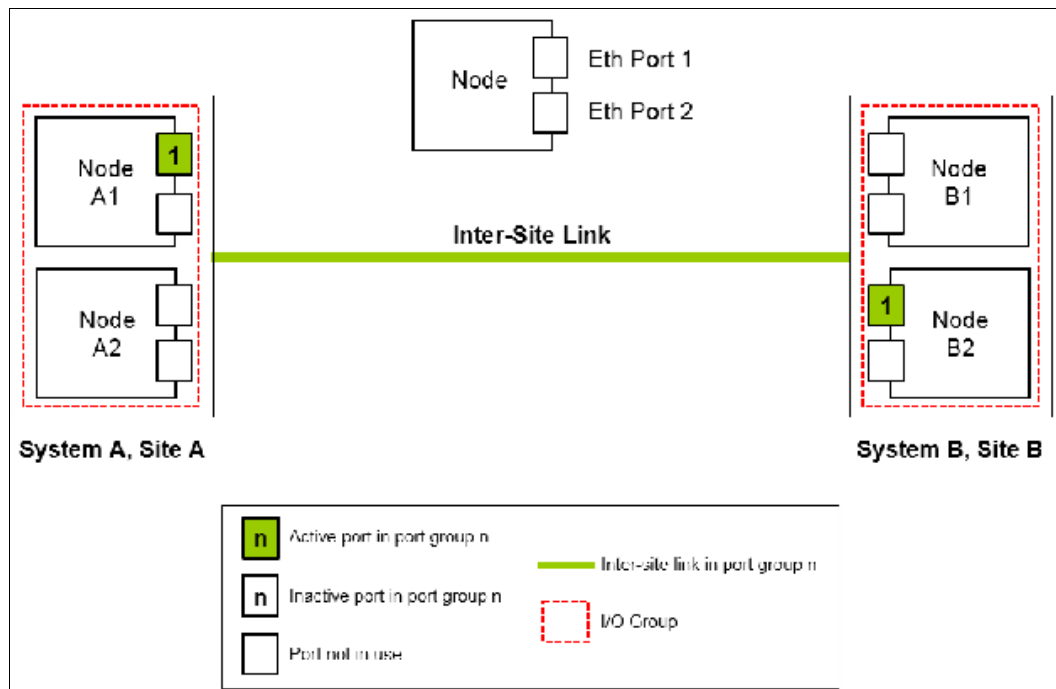

Figure 10-98 Single link with only one Remote Copy port group configured in each system
- ▶ Two 2-node systems in IP partnership over a single inter-site link, as shown in Figure 10-98 (configuration 1).
As shown in Figure 10-98 on page 680, two systems are available: